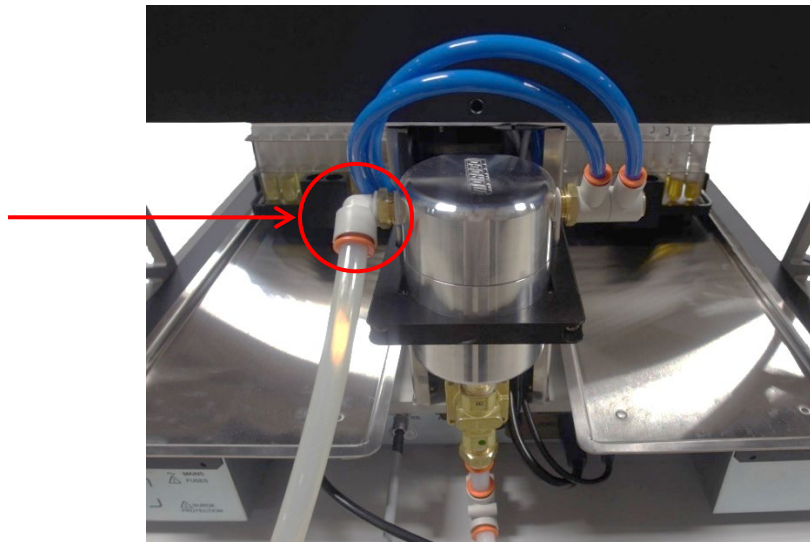

Figure 4: Vacuum Control Pump
1. Connect the other end of the vacuum pump tubing to vacuum control pump on back of UltraVIS. See Figure 4.